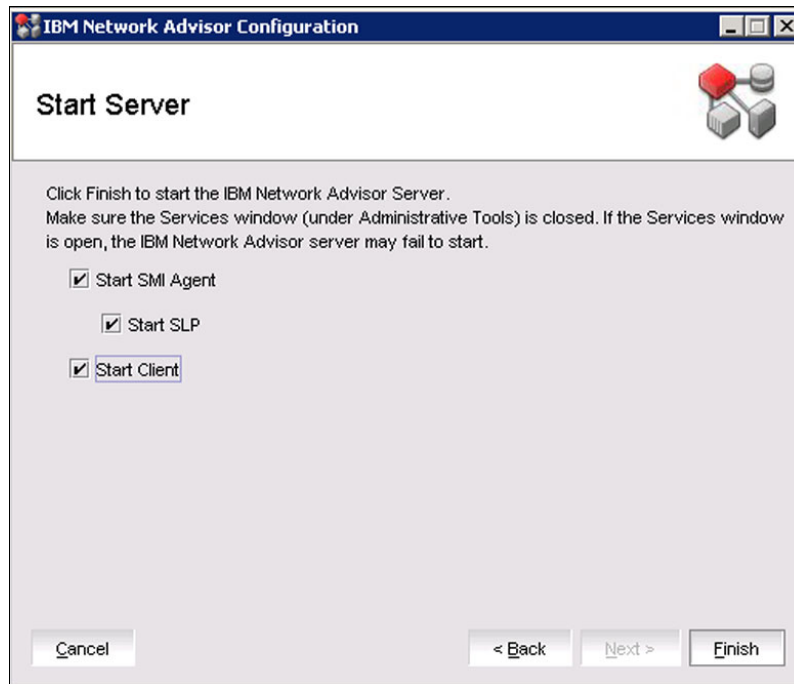

Figure 4-23 Starting the server and client
20. The Start Server window opens and prompts you to start the server and client, as shown in Figure 4-23. You can start the client after the installation by selecting the **Start Client** check box, or you can leave it clear to start the client at a later stage.